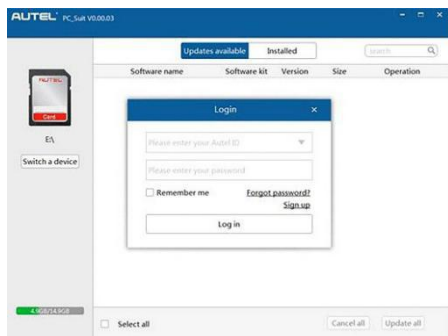

Figure 7.2
5. Run the **Maxi PC Suite**. Wait for the Log In window to pop up. (Figure 7.2)